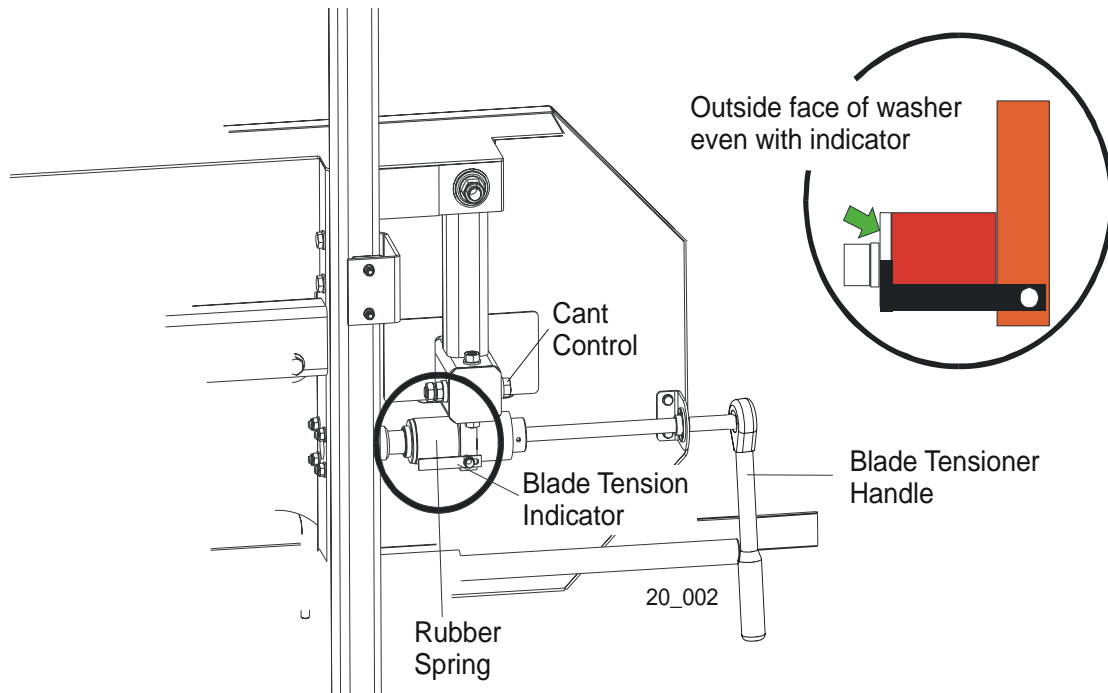

FIG. 2-4
See **Figure 2-4**. Turn the blade tension handle clockwise to compress the rubber spring and tension the blade. Check the blade tension occasionally when adjusting the cant control or while cutting. As the blade and belts heat up and stretch, the blade tension will change. Adjust the tension handle as necessary so that the indicator is parallel to the blade guide arm.
5. Use the cant adjustment bolt, shown in **Figure 2-4** to adjust where the blade travels on the blade wheels.